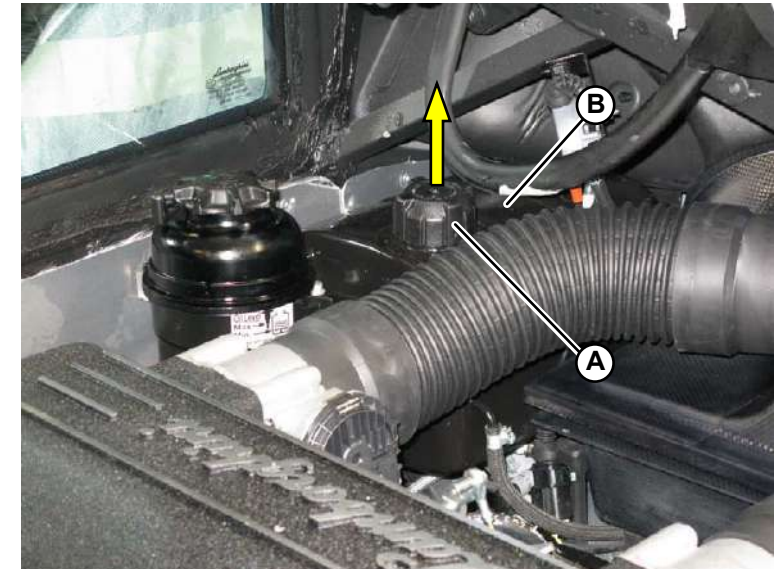

Fig.1
5. After bleeding, screw the cap on again (**A-Fig. 1**).